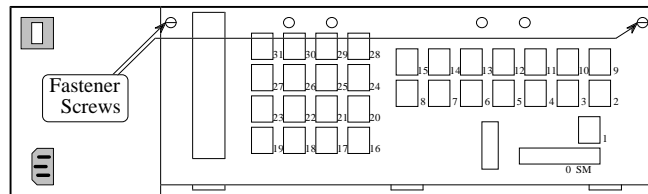

Figure 10 - Location of Fastener Screws
2. Loosen the two fastener screws holding the back panel to the chassis (see Figure 10).